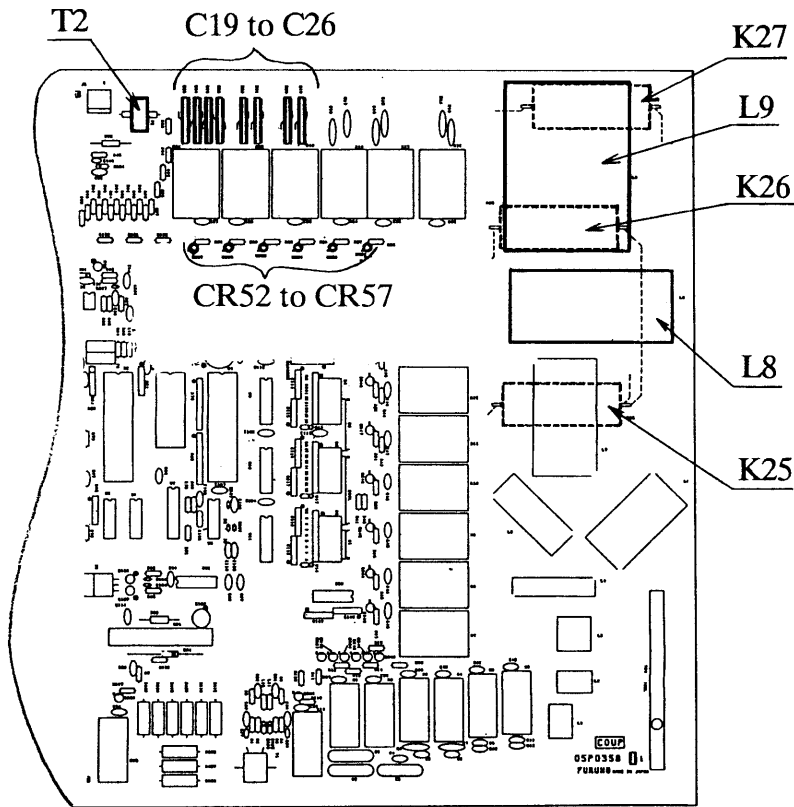

Fig. 2 COUP Board
[K25 to K27, T2 (COUP PCB) ----- Fig. 2]
3. Observe the LEDs CR52 to CR57 (Fig. 2). Are they all OFF?
7. If there is sparking (due to insufficient antenna capacity), do either remedy (1) or remedy (2).